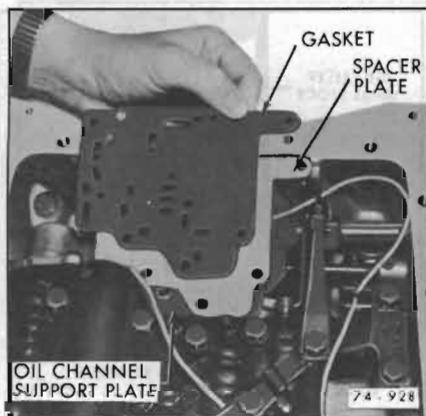

Figure 75-928—Installing Spacer Plate and Gasket
2. Install spacer plate and gasket. See Figure 75-928.